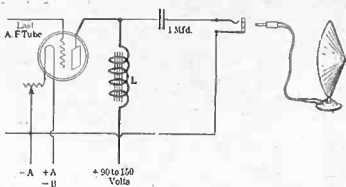

FIG. 329. The electrical diagram demonstrating how to hookup a cone speaker, so as to keep the direct current off the speaker windings.
(1)—Yes, this is true. The direct current is placed on the magnets, which is injurious. (2)—Fig. 329, shows the electrical diagram of such a hookup. L is a 200 henry choke coil. The top prong which formally went to the plate of the last tube, now goes to one terminal of a fixed condenser. The bottom terminal of the jack goes to the A minus post, instead of the B plus post. In this manner D. C. is fed to the magnets only.
[For method of connecting choke coil and condenser see Fig. 329 on page 12 of this issue.]